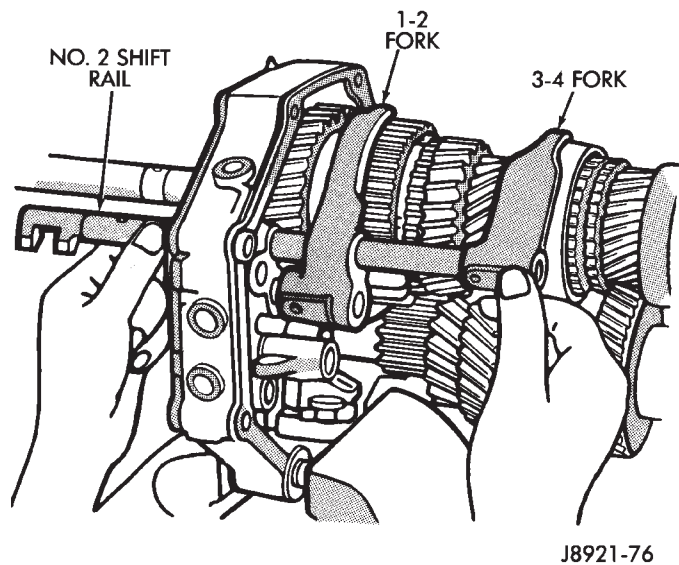

Fig. 69 Installing No. 2 Shift Rail and Shift Forks
(3) Install 1-2 and 3-4 shift forks in synchronizer sleeves. Then slide No. 2 shift rail through intermediate plate and into forks (Fig. 69).
(4) Coat shift rail interlock pins and balls with liberal quantity of petroleum jelly to hold them in place.